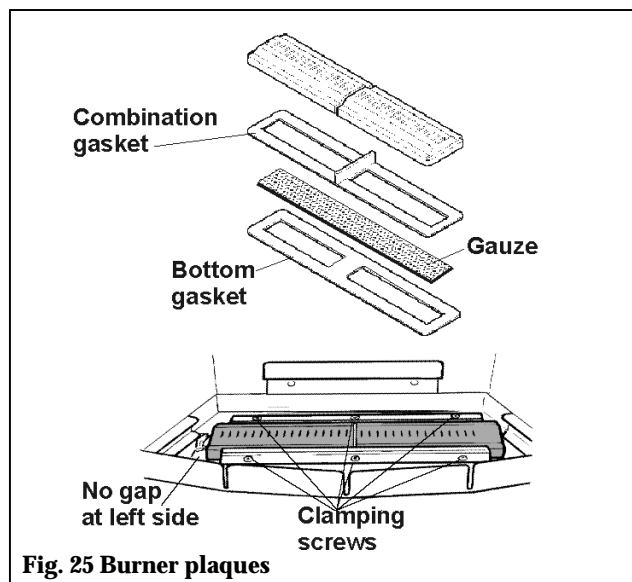

Fig. 25 Burner plaques
12.1 TO REPLACE BURNER PLAQUES (See figure 25)